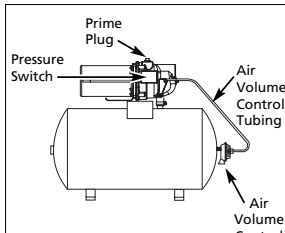

Figure 4 - Horizontal Tank
SHALLOW WELL PUMP WITH CONVENTIONAL STORAGE TANK (FIGURES 4 & 5)
- Remove prime plug (Figure 4 or 5).